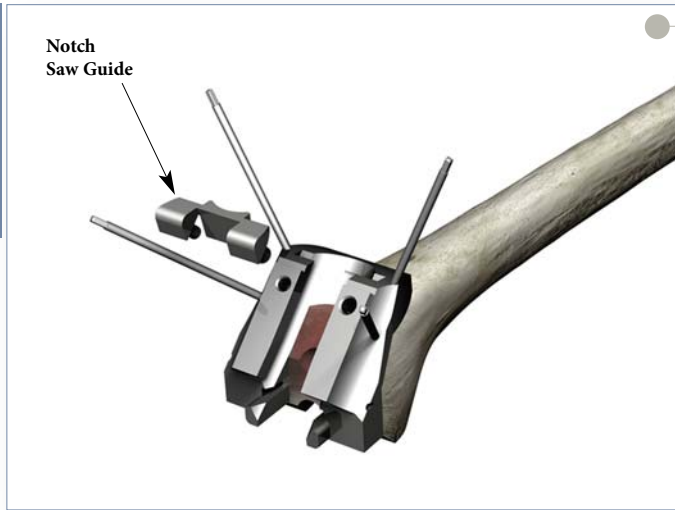

Figure 27
- ▶ Guide the pegs of the appropriately sized Notch Saw Guide into the anterior holes on the Notch Block (Figure 27).